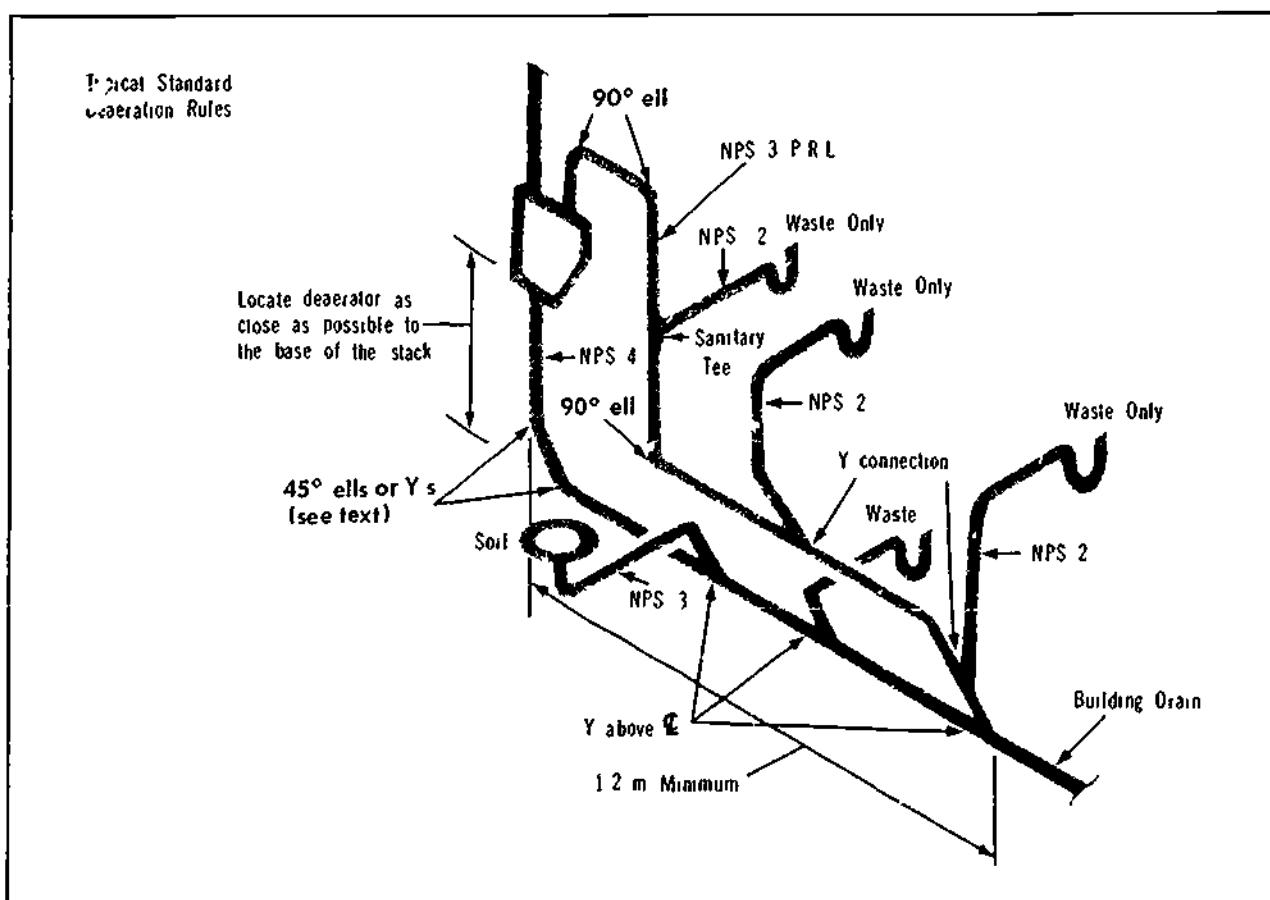

Figure 37-16. Installation of Degaerator Above Base of Sovent Stack
37. Each Sovent stack normally empties through a Sovent deaerator into the horizontal building drain (Figure 37-16). The deaerator should be installed as close as possible to the building drain. Below the deaerator, 45° ell or Y's are used, usually one of each as this provides for installation of a clean-out. Should a continuous drain pass under the Sovent stack, the stack could enter the top of the drain by a similar procedure. The horizontal building drain should be sized in accordance with local codes.